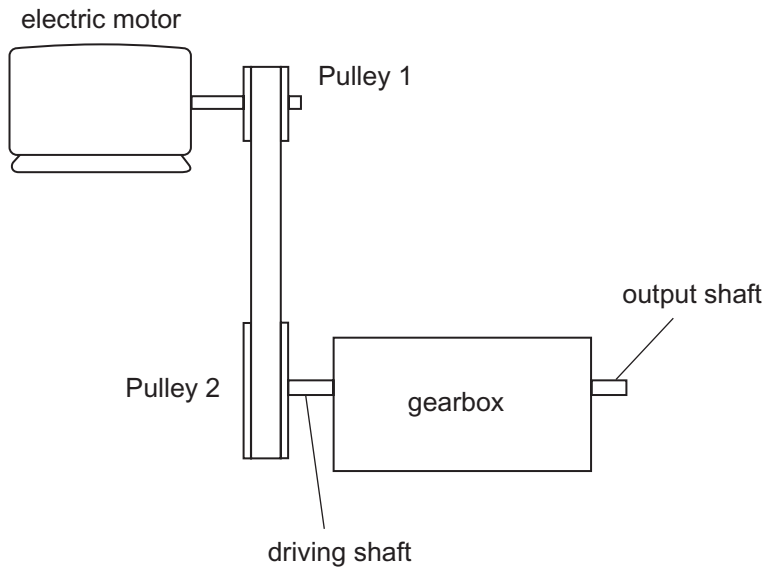
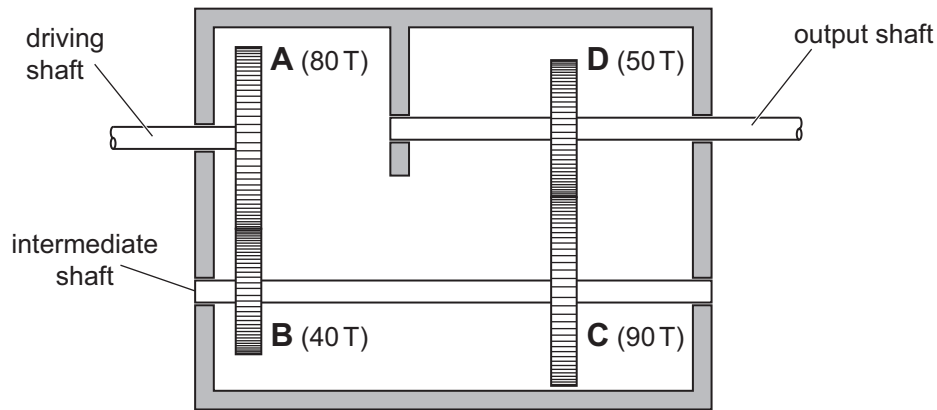

Fig. 7
Fig. 8
(iii) Look at **Fig. 7**. It shows a gearbox that is driven by an electric motor through a belt and pulley system.
- (d) Look at **Fig. 8**. It shows the internal layout of the gearbox in **Fig. 7**. The number of teeth (**T**) are shown on the gear wheels. The driving shaft rotates at 800 rev/min.
- (i) Write down the type of gear train shown in **Fig. 8**.
(iv) The gearbox in **Fig. 8** is to be changed to give an output speed of 3200 rev/min by changing wheels **C** and **D** only. Gear wheels 30T, 45T, 60T and 75T may be used.